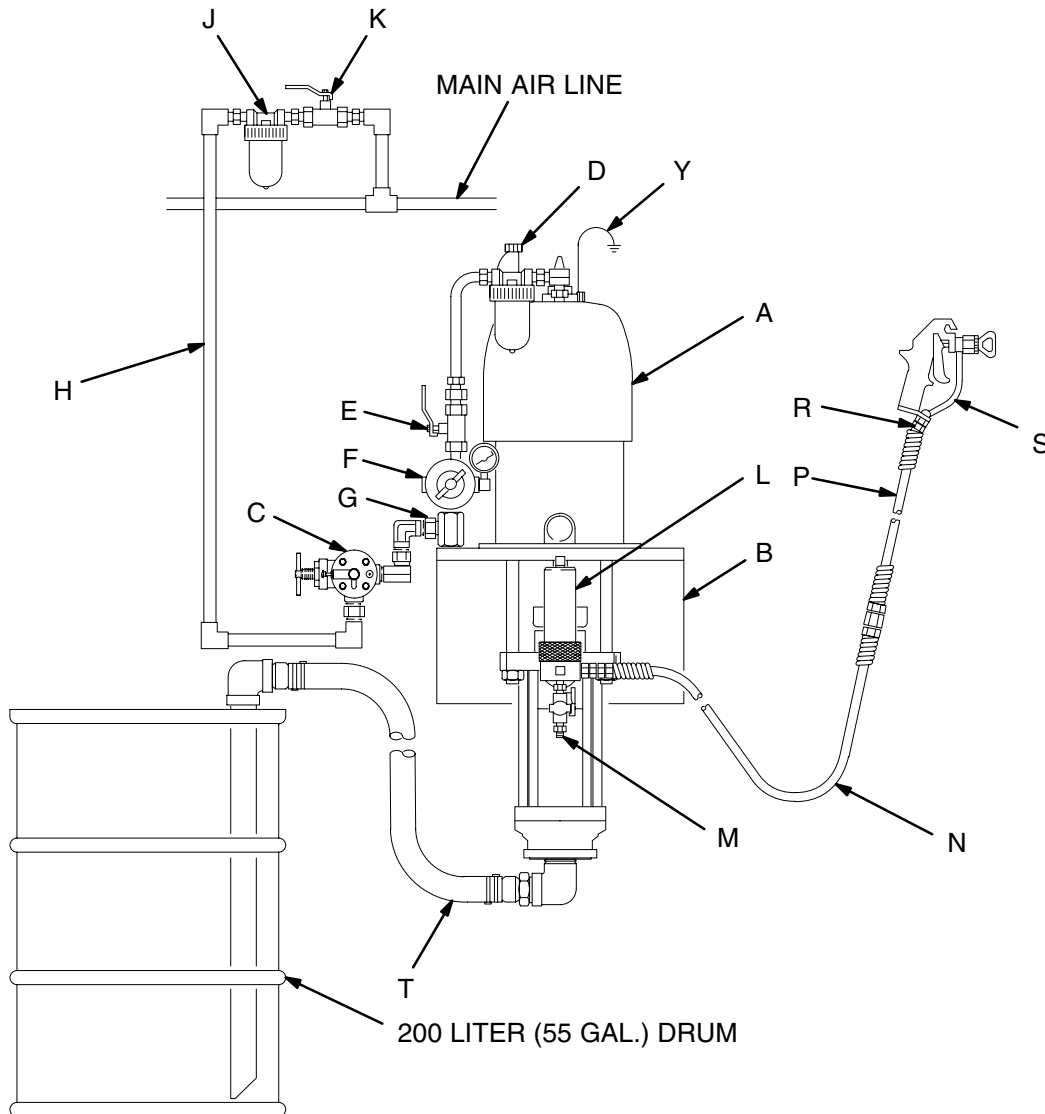

Fig. 3
Fig. 3 is only a guide for selecting and installing system components and accessories. Contact your Graco distributor for assistance in designing a system to suit your particular needs.
Mount the pump (A) to suit the type of installation planned. Fig. 3 illustrates a wall-mounted system. Pump dimensions and the mounting hole layout are shown on pages 40 and 41.
Install the following accessories in the order shown in Fig. 3, using adapters as necessary:
Install the following accessories in the positions shown in Fig. 3, using adapters as necessary:
- **A fluid filter (L)** with a 60 mesh (250 micron) stainless steel element, to filter particles from the fluid as it leaves the pump. It includes a **fluid drain valve (M)**, which is required in your system to relieve fluid pressure in the hose and gun (see the **WARNING** at left).
- **A gun or valve (S)** dispenses the fluid. The gun shown in Fig. 3 is an airless spray gun for light to medium viscosity fluids.
- **A gun swivel (R)** allows freer gun movement.
- **A suction kit (T)** allows the pump to draw fluid from a 200 liter (55 gallon) drum.